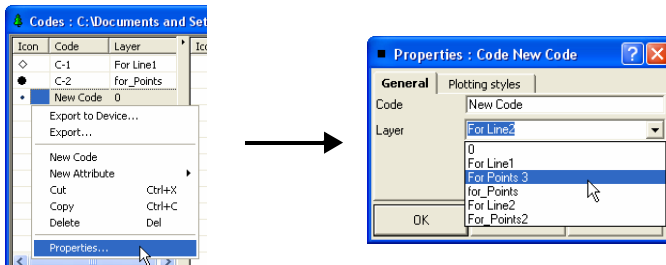

Figure 5-55. View Code Properties and Edit Name
1. Right-click the selected code and click **Properties** on the pop-up menu (Figure 5-55).
2. On the *General* tab, edit the code’s name and select the layer (Figure 5-55).